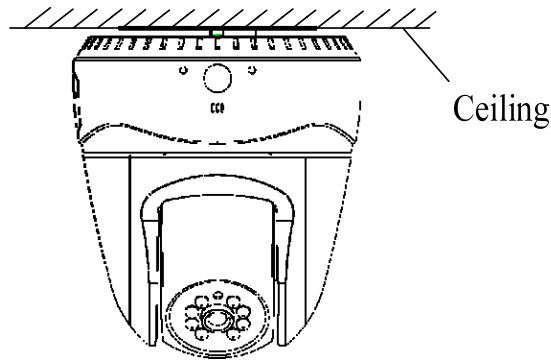

Figure 2-2-1 Schematic Installation
Step 2: Put the slot (on the camera's pedestal) into the socket (on the metal fixed plate), and gently push it back, till it is fixed. The above introduce is as shown in the Figure2-2-1.